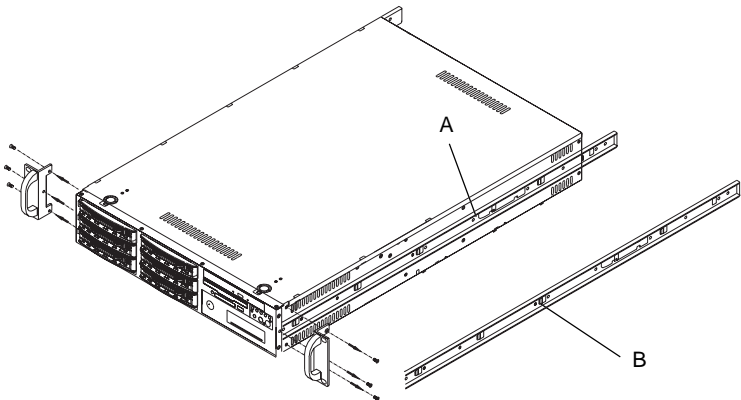

Figure 2-1. Identifying the Sections of the Rack Rails
You should have received two rack rail assemblies with the SuperServer 6021H. Each of these assemblies consist of three sections: an inner fixed chassis rail that secures to the 6021H (A) and an outer fixed rack rail that secures directly to the rack itself (B). A sliding rail guide sandwiched between the two should remain attached to the fixed rack rail. (See Figure 2-1.) The A and B rails must be detached from each other to install.